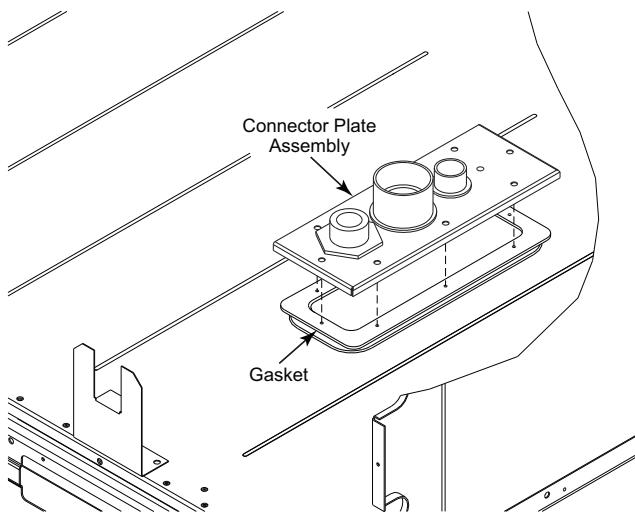

Fig. 18 – Completing Installation of Thru-the-Base Option
4. Place the gasket over the embossed area in the basepan, aligning the holes in the gasket to the holes in the basepan. See Fig. 18.